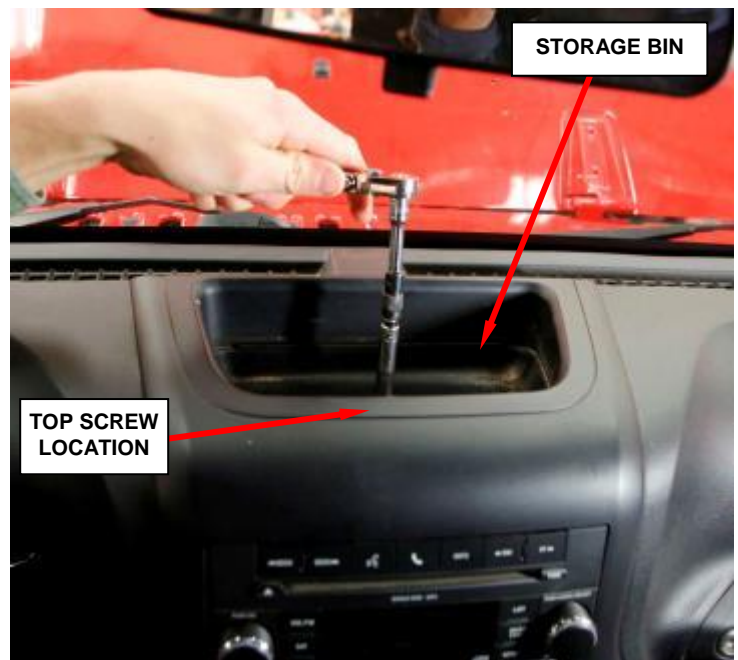

Figure 93 – Center Bezel Screws
18. Remove the storage bin mat and remove the top screw (Figure 93).